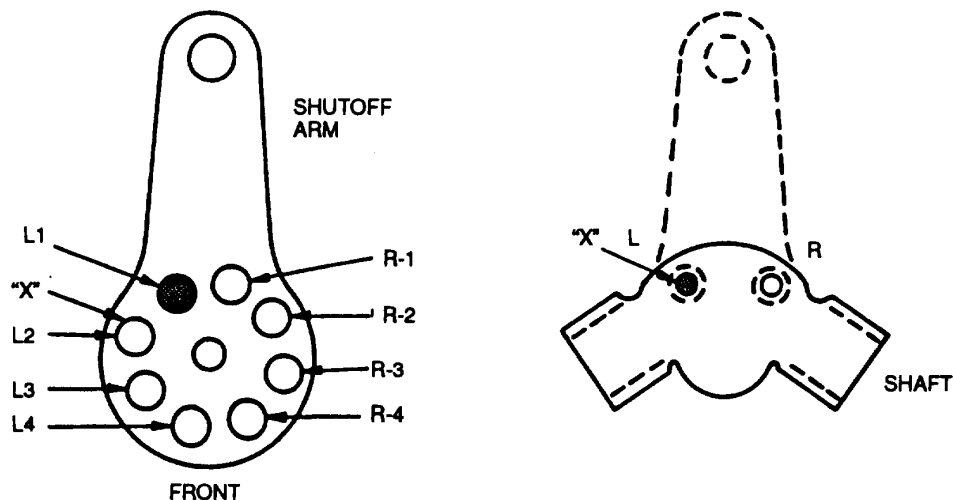

FIGURE 3-83. Alignment of Shutoff Arm
FIGURE 3-83 indicates alignment hole for adjustment shutoff arm (27) for this application.
- (2) Position adjustment shutoff arm (27) on shaft assembly (30) and secure with two washers (25 and 26), screw (23), and adjustment shutoff screw (24)